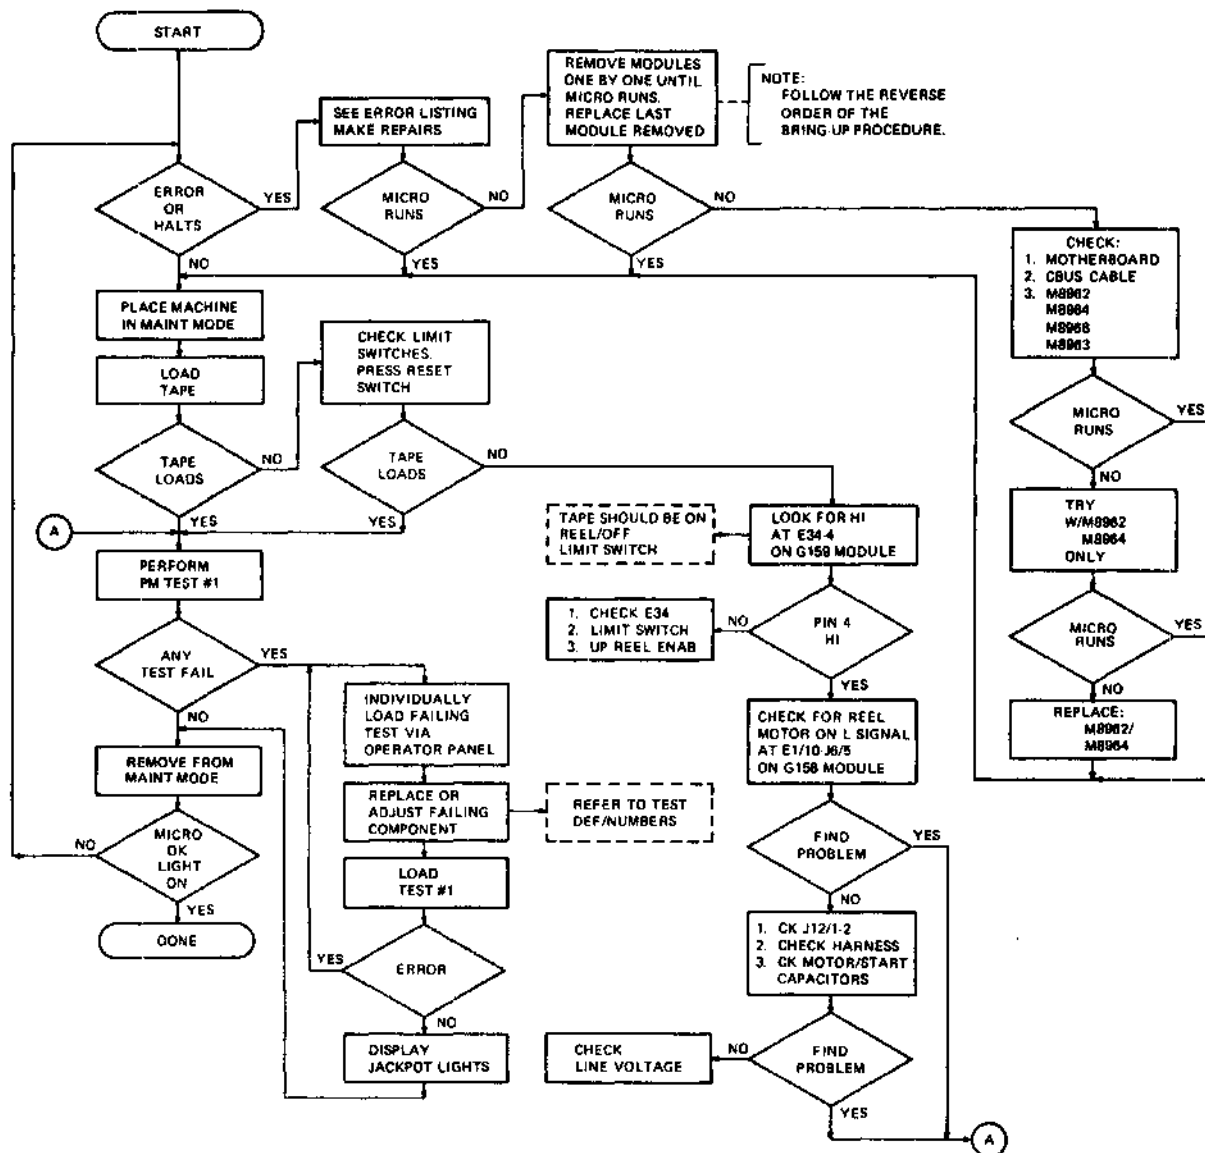

Figure 7-4 Troubleshooting Flowchart
Corrective maintenance (CM) involves troubleshooting at the system level with on-line diagnostics, and at the subsystem level with TS11 microdiagnostics and visual methods to locate the failure. Figure 7-4 outlines the suggested troubleshooting procedure. You should isolate the failure to an electrical area (module) or a mechanical assembly. Then you can replace or adjust the faulty module or mechanical assembly as required.